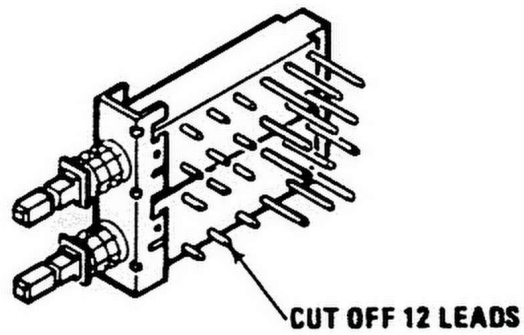

Fig. 1. Location of Twelve Switch Leads To Be Trimmed.
- () 2. Trim the front 12 leads off the new switch provided in the kit (see Fig. 1).